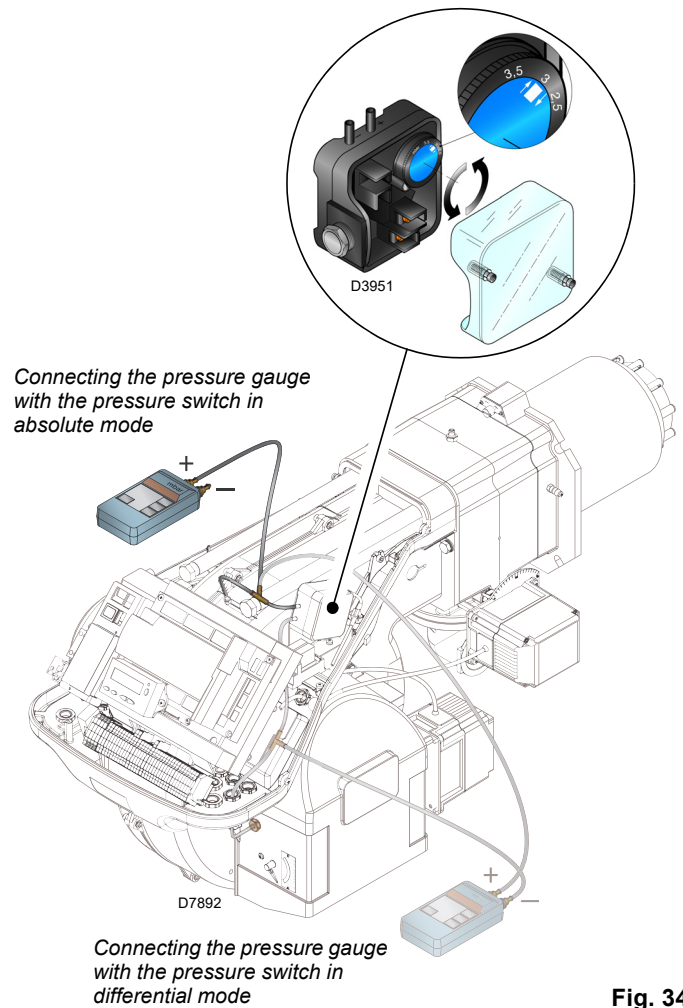

Fig. 34
- Adjust the air pressure switch (Fig. 34 at page 34) to the start of the scale.
Adjust the air pressure switch (Fig. 34) after having performed all other burner adjustments with the air pressure switch set to the start of the scale.
The connection of the pressure gauge is shown in Fig. 34. The standard configuration is that with the air pressure switch connected in absolute mode. Note the presence of a "T" connection, not supplied.
In this case also, the pressure gauge must be connected in differential mode, as shown in Fig. 34.